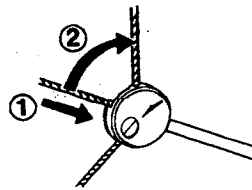

Fig. 32 -
Step 5 - Remove, grease, and reinstall the anchor bolt, then route the main cable diagonally through the cable carrier as shown in figure 32 position #1, passing it through the carrier housing and through the anchor bolt. Snap the main cable into position #2 so that it is completely vertical as shown. Leave the anchor bolt loose.